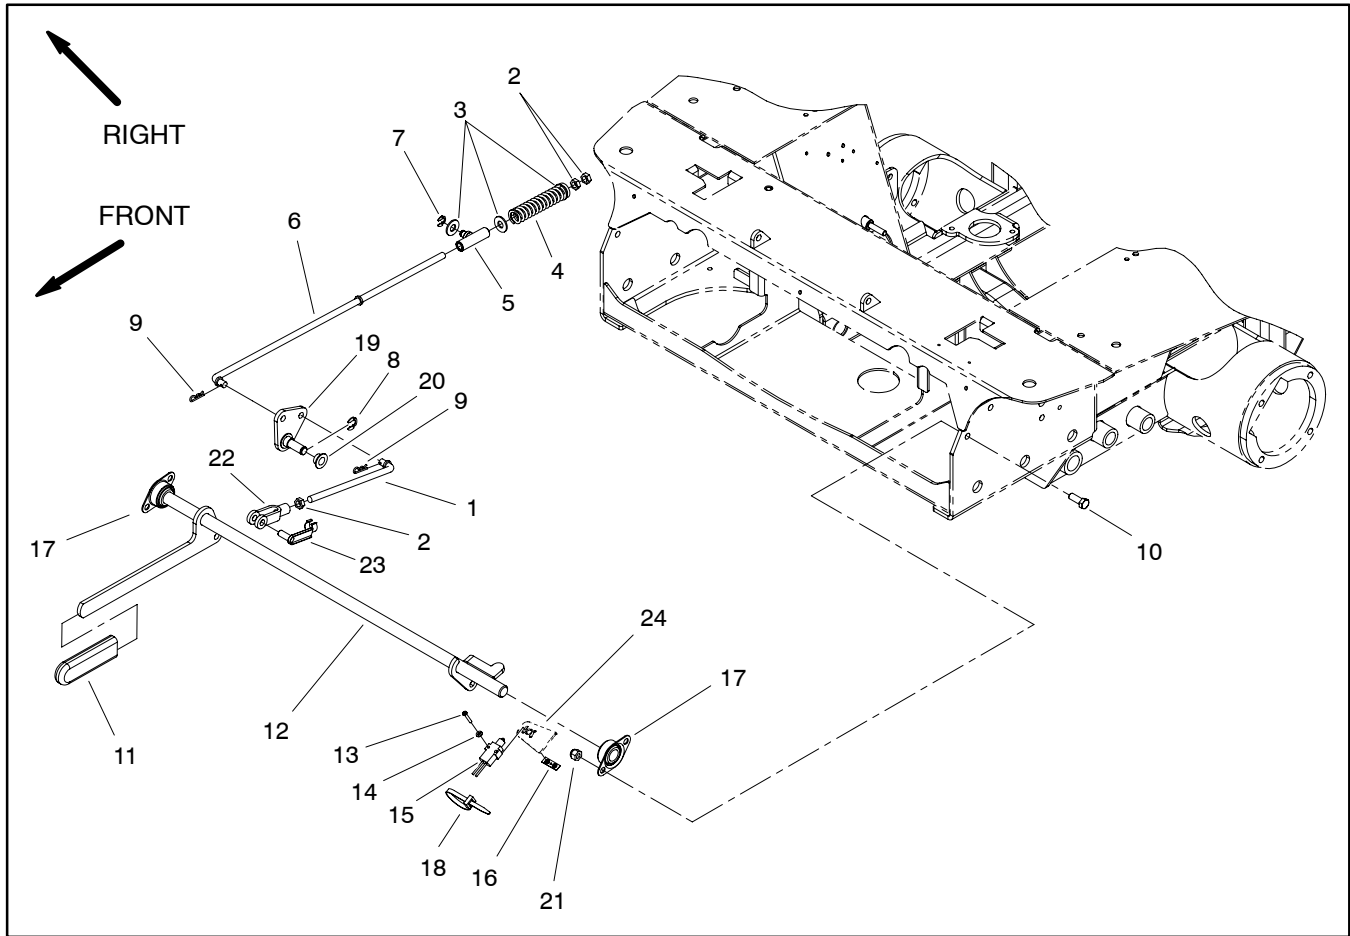
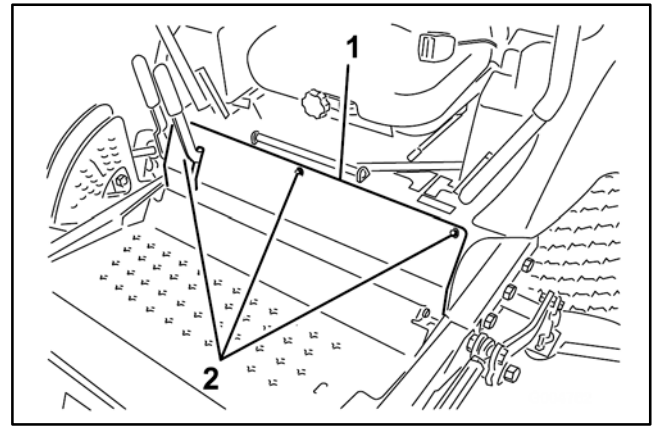

Figure 9
Figure 10
### Disassembly (Fig. 9)
2. Remove front panel under the operator seat (Fig. 10).
3. If removal of brake handle (item 12) is necessary:
4. Remove additional parking brake components as necessary using Figure 9 as a guide.
### Assembly (Fig. 9)
1. Assemble parking brake components as necessary using Figure 9 as a guide.
4. Install front panel to the machine (Fig. 10).